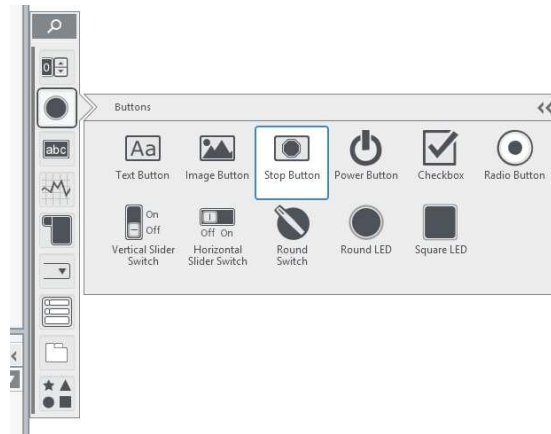
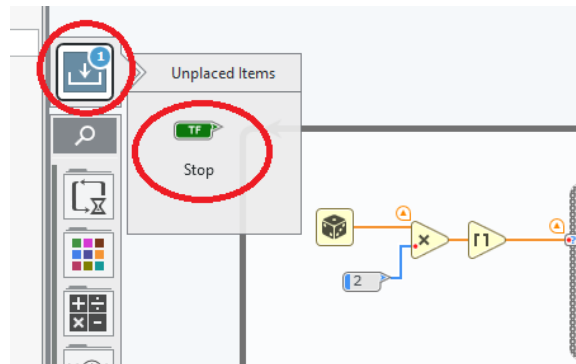

Figure 1.21: Stop Button
Figure 1.22: Stop Button
- From the “Panel pallette” add a “Stop Button” to the panel(Fig. 1.21). Then by clicking the Diagram tab, update the diagram.(Fig. 1.22)